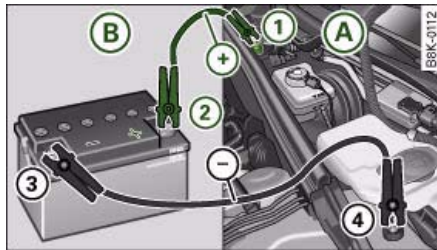

Fig. 237 Jump-starting with the battery of another vehicle: A - Discharged battery, B - Boosting battery
- 1. Connect one end of the lead to the **jump-start terminal** ⇒ fig. 237 ① (terminal under red cap = "positive") of the vehicle with the flat battery ④.
- 2. Connect the other end of the positive lead to the positive terminal ② of the boosting battery ⑤.